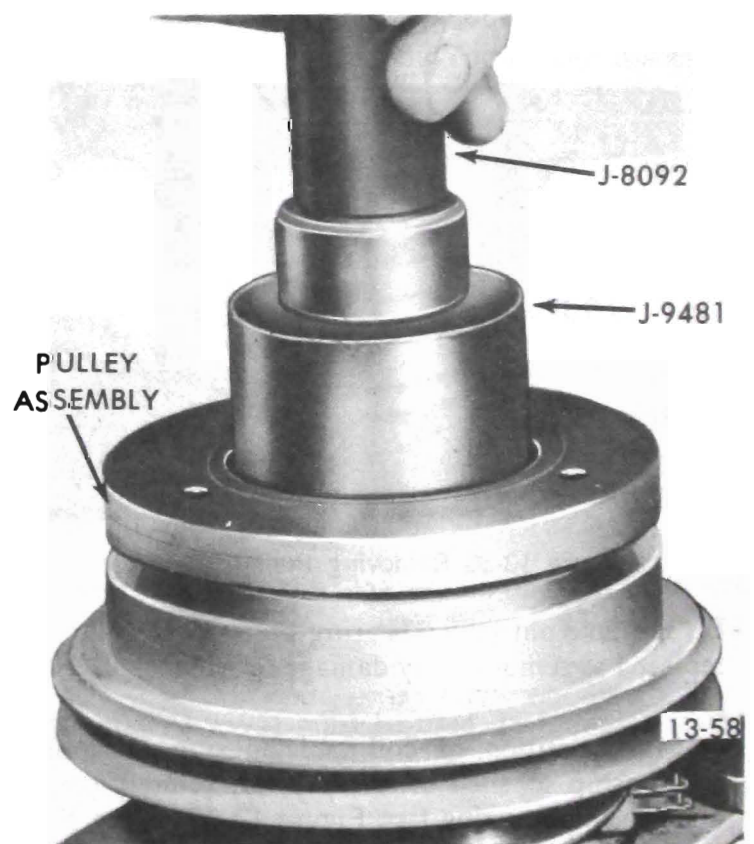

Figure 13-41 Installing Pulley Assembly
4. Drive pulley assembly onto hub of front head (see Figure 13-41) using installer (J-9481) and handle (J-8092).